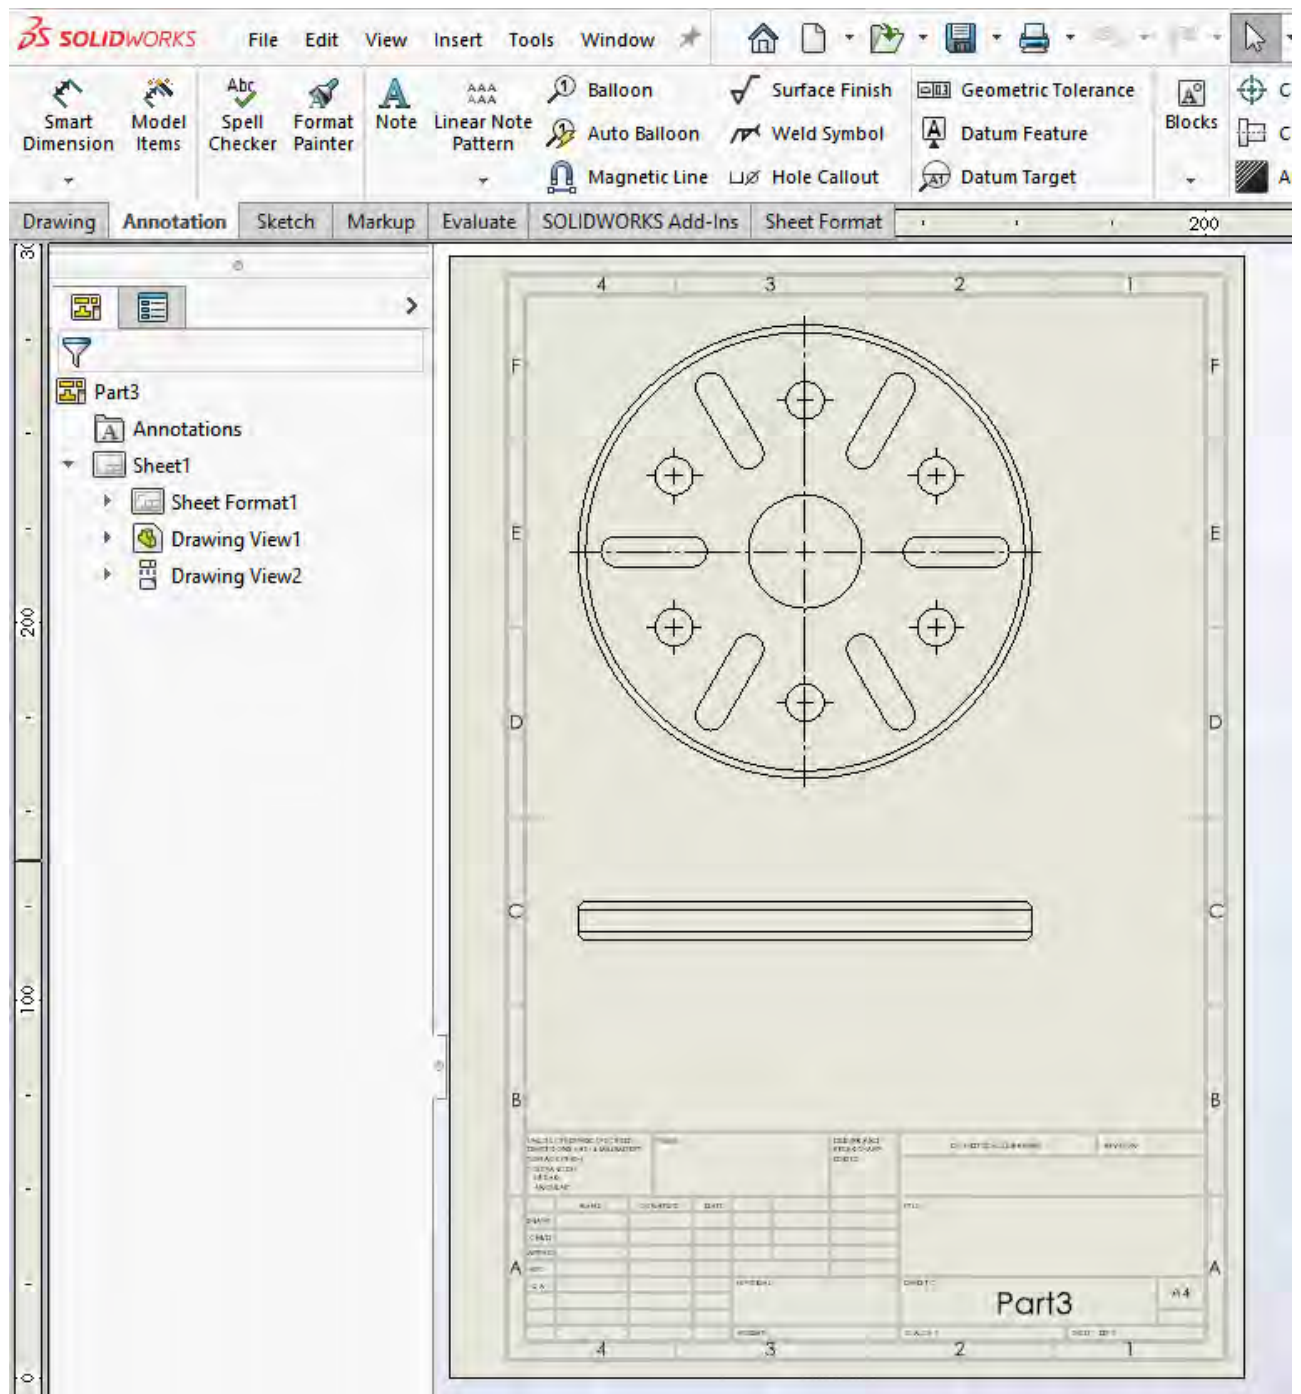

Fig. 13
- For example, you can create two views – Top View and Front View (Fig. 13).